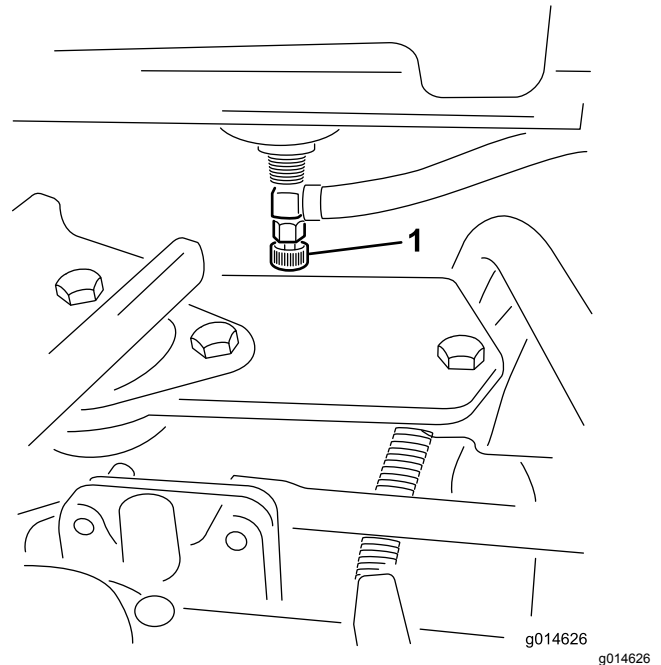

Figure 31
1. Close the fuel-shutoff valve (Figure 31) below the fuel tank.